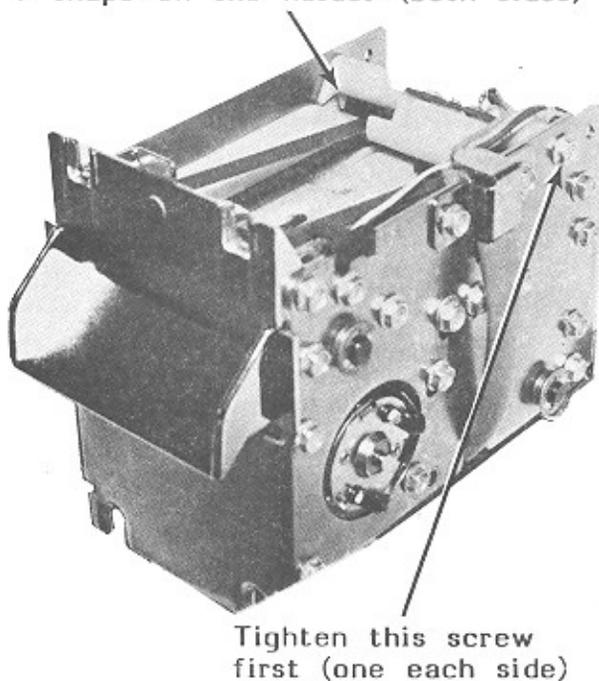

Figure 4-5. Magnetic Head Alignment
1. Install the four screws loosely, and align the assembly with the lower track by pressing the V on the holder firmly against the V on the lower track (as shown in Figure 4-5).